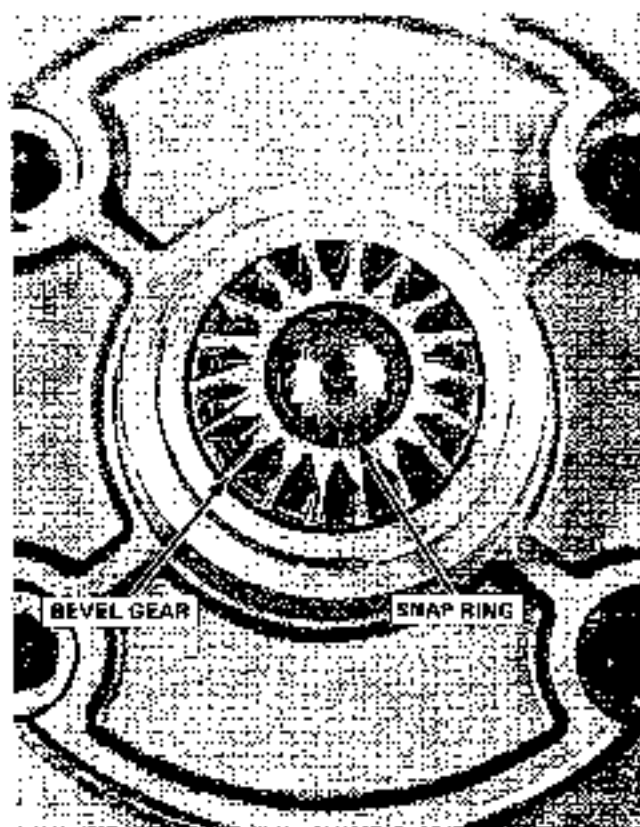
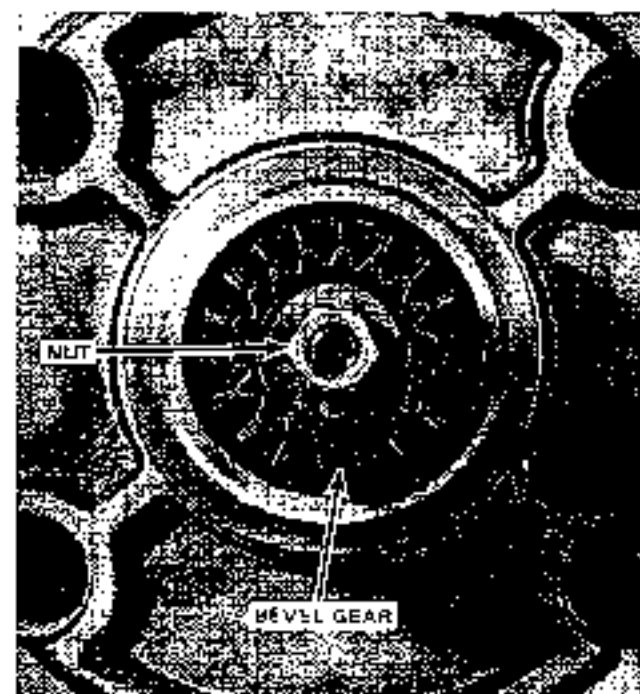

FIGURE 3-11
FIGURE 3-11A
- When replacing the hydro package the bevel output gear must be removed from the old hydro and installed on the new one. The bevel gear is held on with either an external snap ring (fig. 3-11) or a nut (fig. 3-11A). Make sure snap ring is properly installed in the groove. The snap ring should be replaced when it shows signs of weakness or distortion.